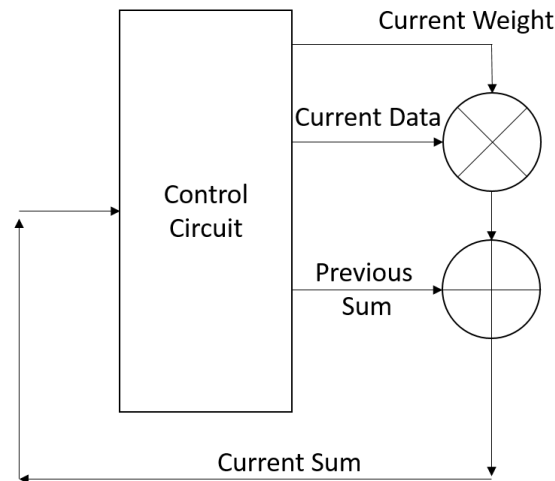
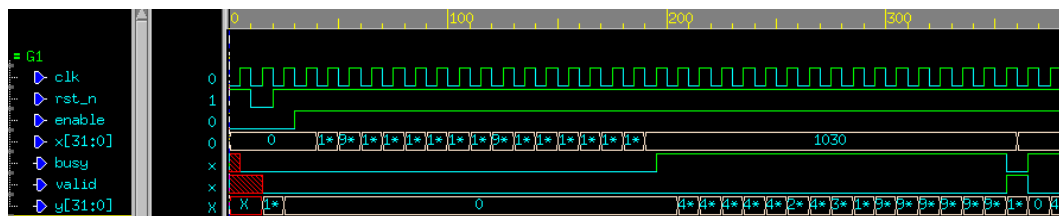

Figure 1. one multiplier and one adder architecture.
Figure 2. Waveform of one multiplier and one adder architecture.
In lab6, we have implemented the filter for ECG application. And we are now going to further explore the design space of the filter architecture. As shown in the optional action item in lab8, there are many possible architectures to improve the performance of the filter. You are going to implement a **one multiplier and one adder architecture** and a **two-parallel architecture** of the filter in this lab. The corresponding architecture diagram are shown in Fig 1 and 3. You can start from the fir1.v which is the finished
- Please use only one multiplier and one adder architecture as shown in figure 1. You can refer to figure 2 to check your function correctness.